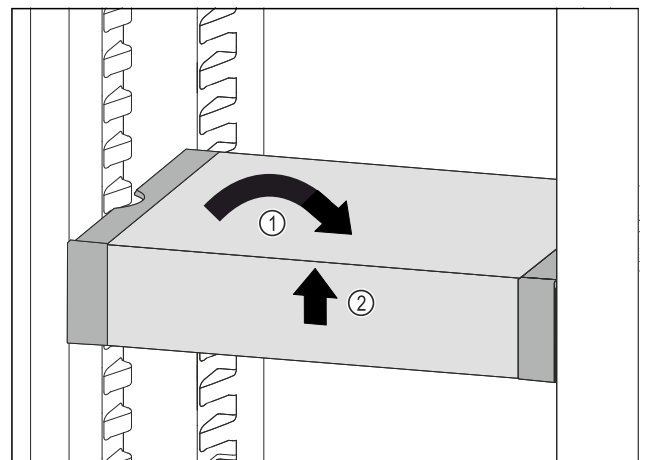

Fig. 168
- Set VarioSafe straight. Fig. 168 (1)
- Lift VarioSafe at the front. Fig. 168 (2)